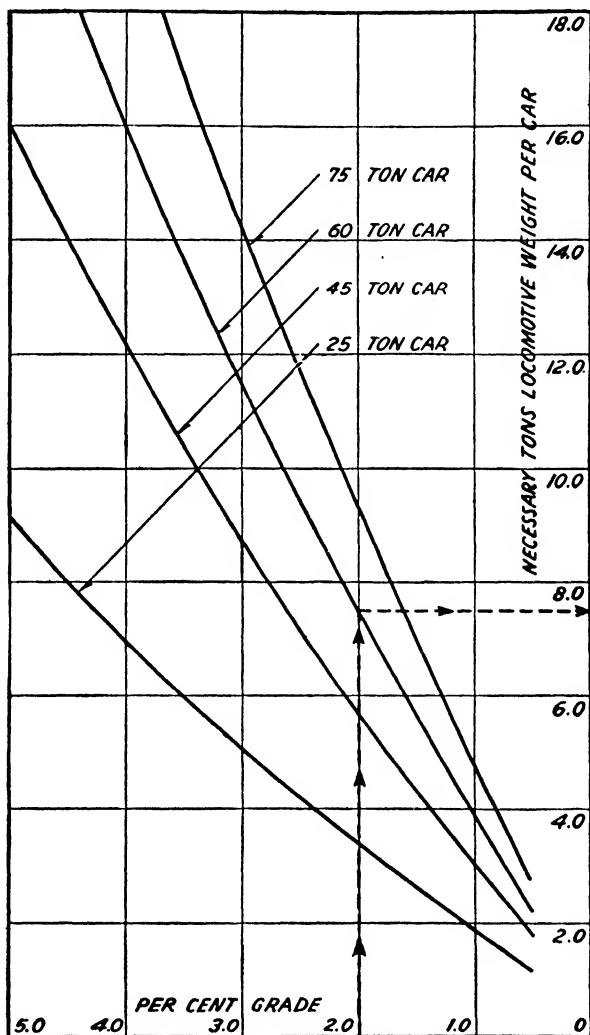
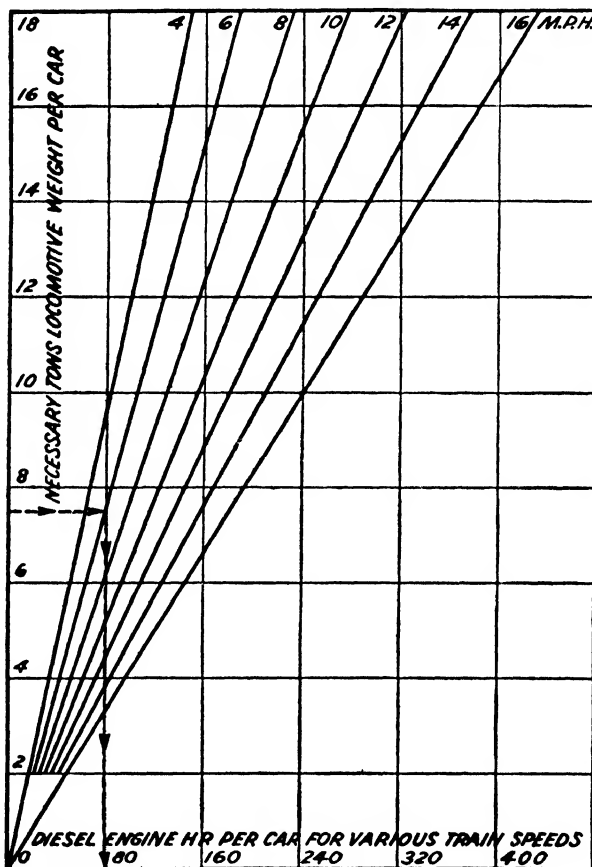

Fig. 45. Locomotive Selection Chart
Fig. 46. Locomotive Selection Chart
**Example.** To haul ten 60-ton cars up a 2% grade at 6 m.p.h. requires  $7.5 \times 10 = 75$  tons on drivers (Fig. 45) and  $80 \times 10 = 800$  Diesel engine hp. (Fig. 46).
Figs. 45 and 46 form an approximate guide for the selection of a Diesel locomotive. This is at 20 per cent adhesion, which results in heavier locomotives than some manufacturers like to apply. If higher adhesive values are deemed acceptable, find the weight and